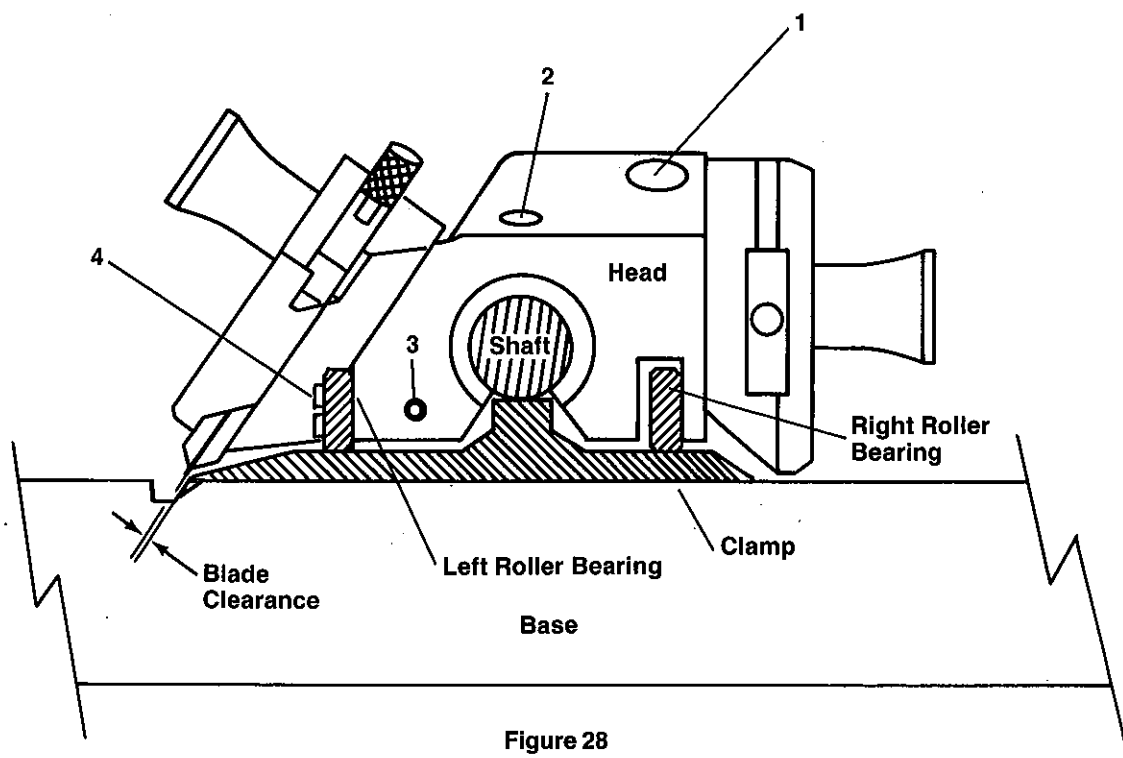

Figure 28
4. The bevel cutting blade should be as close as possible to the CLAMP without the blade or the MAGAZINE touching it. The adjustment for this is provided by slightly turning stud No. 4 in Figure 28.
- F. Tighten screw No. 1 in Figure 28 with the  $\frac{3}{32}$ " wrench to eliminate rotation on the SHAFT. Move the HEAD back and forth while tightening so you can detect when binding starts. Here again it is important not to over tighten.
6. If the HEAD makes a rumbling noise it is caused by paper debris on the WEAR STRIPS or ROLLER BEARINGS. Since the left side ROLLER BEARING is exposed, it is easy to clean. The ROLLER BEARING on the right, under the HEAD can be cleaned without removal. First make certain both wear strips are clean. Loosen set screw No. 1 in Figure 28 one or two turns. Tack down one end of a 6" strip of tape on the right wear strip and fold back so the glue side of the tape is up. Slowly slide the HEAD over the tape so that right side ROLLER BEARING rolls on the tape. Debris will be transferred to the tape. Readjust set screw No. 1 to eliminate HEAD play.